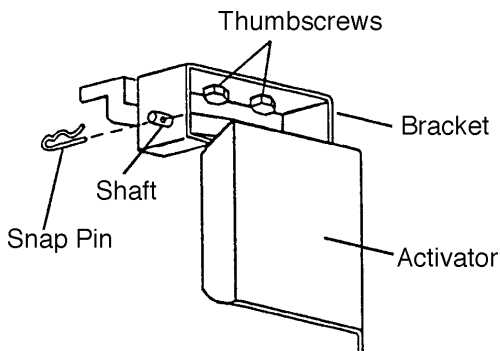

Fig. 14
- 3) Remove the Bin Control Bracket Assembly. See Fig. 14